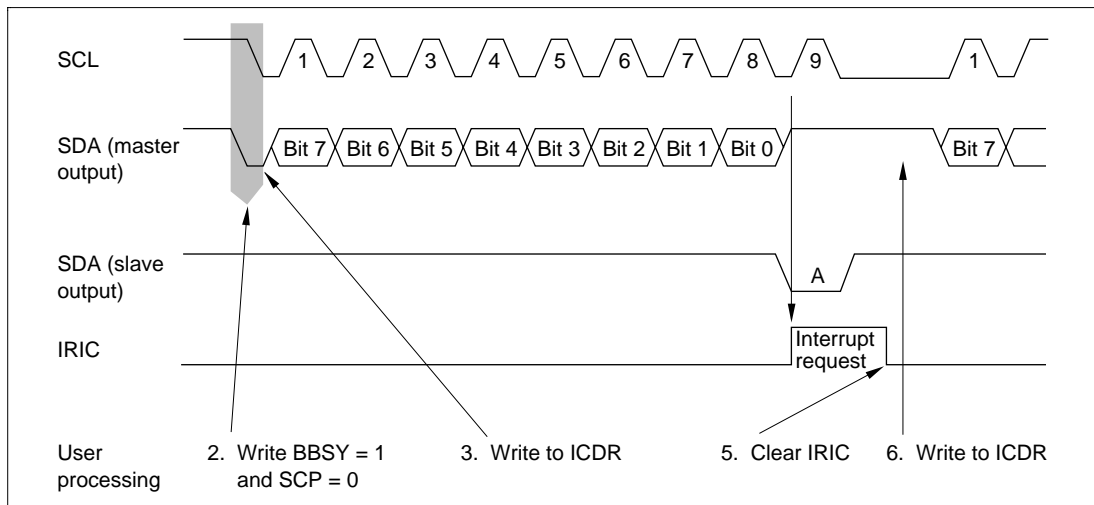

Figure 13.6 Timing in Master Transmit Mode
3. Write data in ICDR. The master device outputs the written data together with a sequence of transmit clock pulses at the timing shown in figure 13.6. If FS is 0 in SAR, the first byte following the start condition contains a 7-bit slave address and indicates the transmit/receive direction. The selected slave device (the device with the matching slave address) drives SDA low at the ninth transmit clock pulse to acknowledge the data.